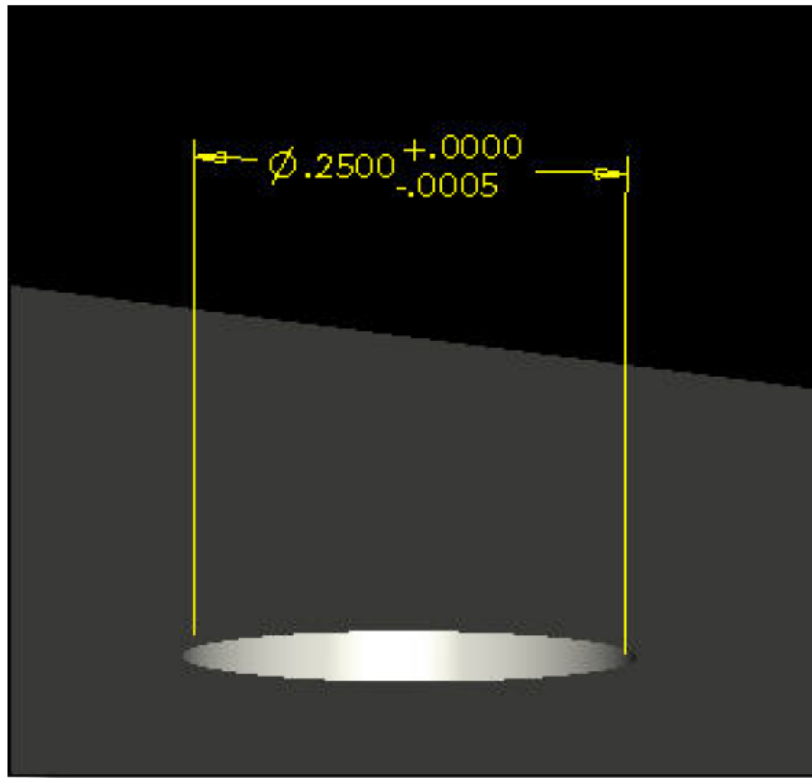

Figure 15 – Unilateral Tolerancing of Holes is not a Problem, Source: Pro CNC Inc.
- The issue of unilateral tolerances is not as much of an issue with holes (see Figure 15). Very often it is more critical to be able to hold odd tolerances on holes to achieve proper slip, or press fits, etc. Because most holes are machined with drills or reamers the same problem with programming does not exist. The size of the hole will be established with the tool, not the program. So if you need a .2500" hole for a press fit for a 1/4" pin then the shop will select the exact size reamer needed. In the case of an odd sized hole that doesn't match a common drill size or reamer size, the problem may exist to a small degree. A hole such as that can be programmed with a circular interpolation using a smaller end mill to create a larger hole. Since that is more of a "stand alone" type of feature, the parameters can be more easily tweaked to achieve the desired tolerance without affecting other features on the part.